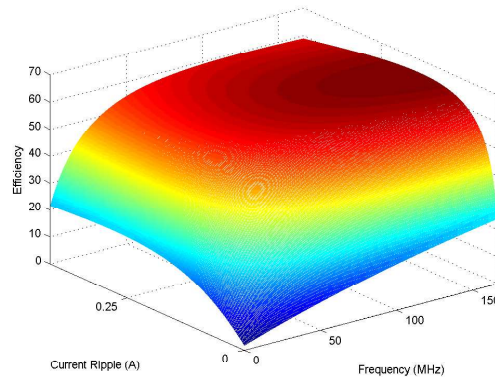
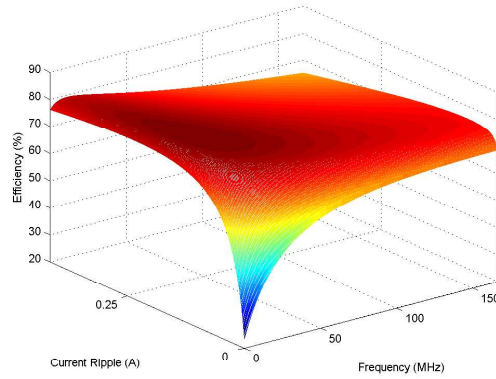

Figure 1: Optimum Power Efficiency vs frequency and Current Ripple
Figure 2: Optimum Power Efficiency vs frequency and Current Ripple with better inductor
1. Run the analysis to determine the max optimum efficiency available. As showed in Figure 1, the efficiency can only reach at around 65%. The bottleneck drops on the inductor loss. Figure 2 shows the same analysis, under same transistor parasitic setting, but with much better inductor available. (I use the same inductor setting as described in the paper.) The efficiency then goes up to 83%, similar to the paper.